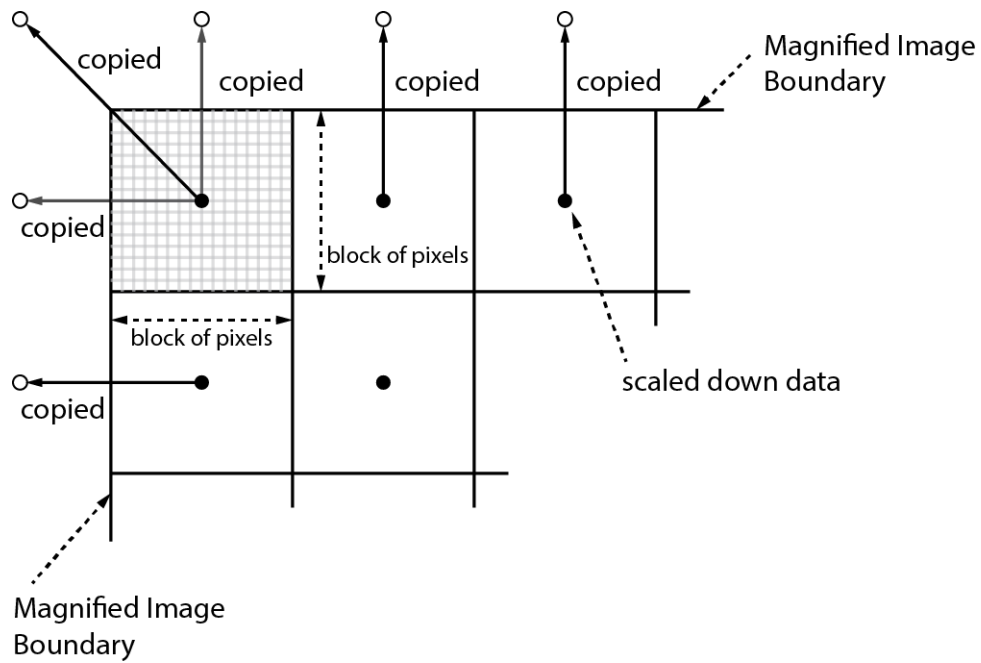

Figure 8.13 Bilinear Interpolated Magnification
2. Enable the Flat Field Correction feature by using the 'sfc' command. The Flat Field data will be enlarged via Bilinear Interpolation as shown in the Figure 8.13.